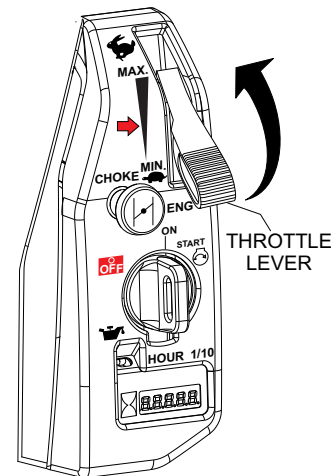

**Figure 14. Engine Choke Lever**
3. If starting a cold engine, **pull** the choke lever outward (Figure 14) to the **CLOSED** position.
4. If starting a warm engine or the temperature is warm, **push** the choke lever inward (Figure 14) to the **OPEN** position.
- Before operating, place the choke lever (Figure 14) in the **OPEN** position.